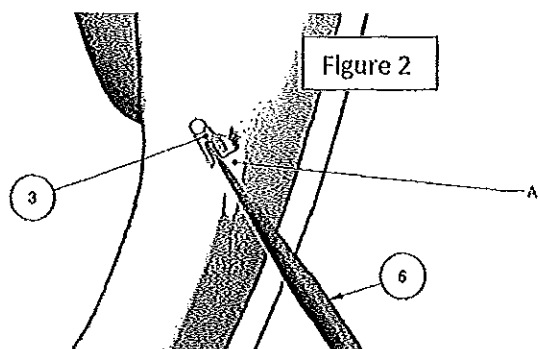

Figure 2
2. Insert one armrest nut (3) into slot A in the seat (1). Use screwdriver and mallet to tap nut firmly to end of slot. See Figure 2.